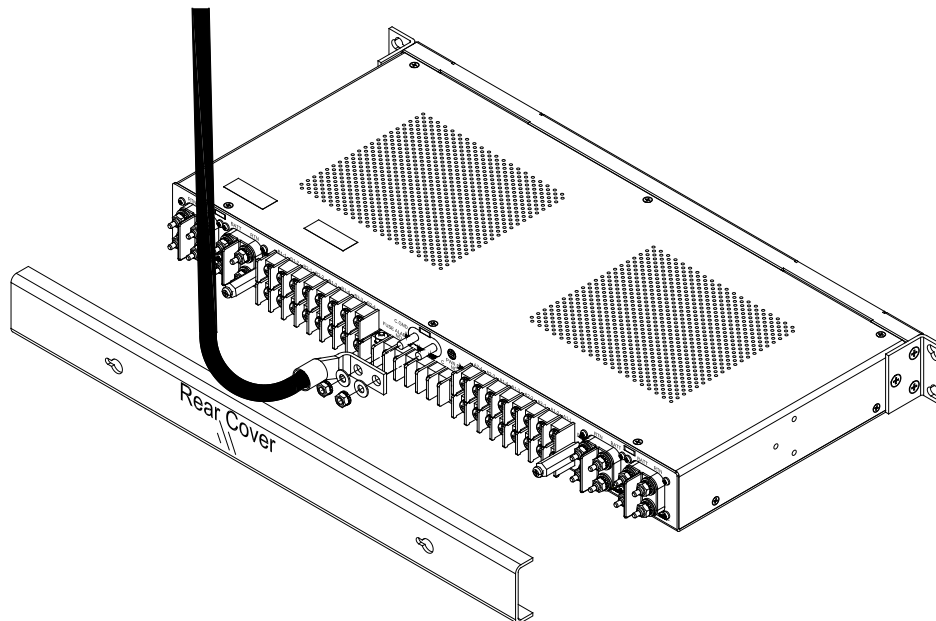

Figure 4 - Ground Lug Connections
4. Loosen (you need not remove) the two screws securing the rear terminal cover on the back of the panel. See Figure 4.
8. Connect the lug to the terminal using the nuts or bolts and flat washers provided, as shown in Figure 4.